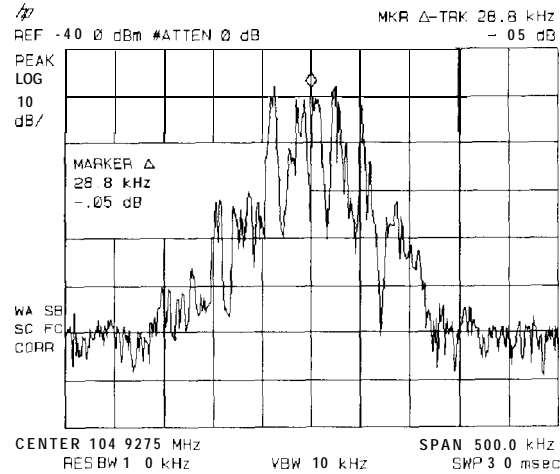

Figure 3-9. Using Marker Tracking to Track an Unstable Signal
- The signal frequency drift can be read from the screen if both the marker track and marker delta functions are active. Press **(MKR)**, **MARKER Δ**, **(MKR FCTN)**, **MK TRACK ON OFF**; the marker readout indicates the change in frequency and amplitude as the signal drifts. See Figure 3-9.